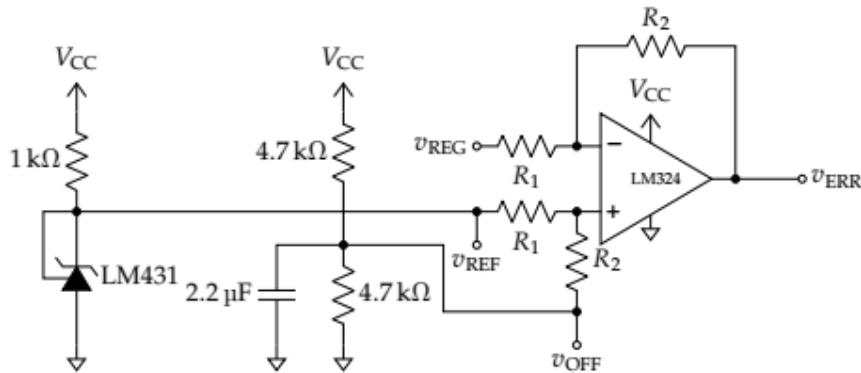

Figure 11.8: PWM Modulation Circuit
1. Pick  $R_1$  and  $R_2$  in figure 11.8 in order to make  $v_{ERR} = v_{REF} - v_{REG} + v_{OFF}$ . Choose values greater than 20 kΩ.
2. Construct the circuit in figure 11.8 with  $V_{CC} = 5$  V.